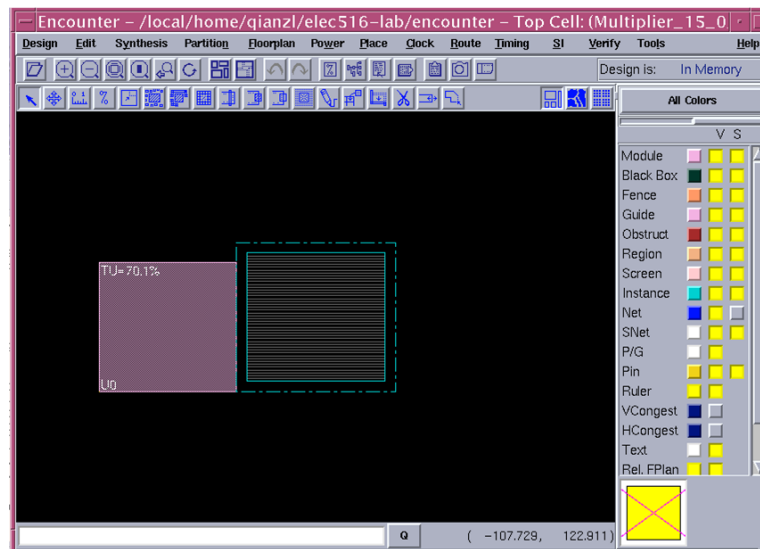

Figure 27: View After Floorplan
- Figure.27 shows the result floorplan;